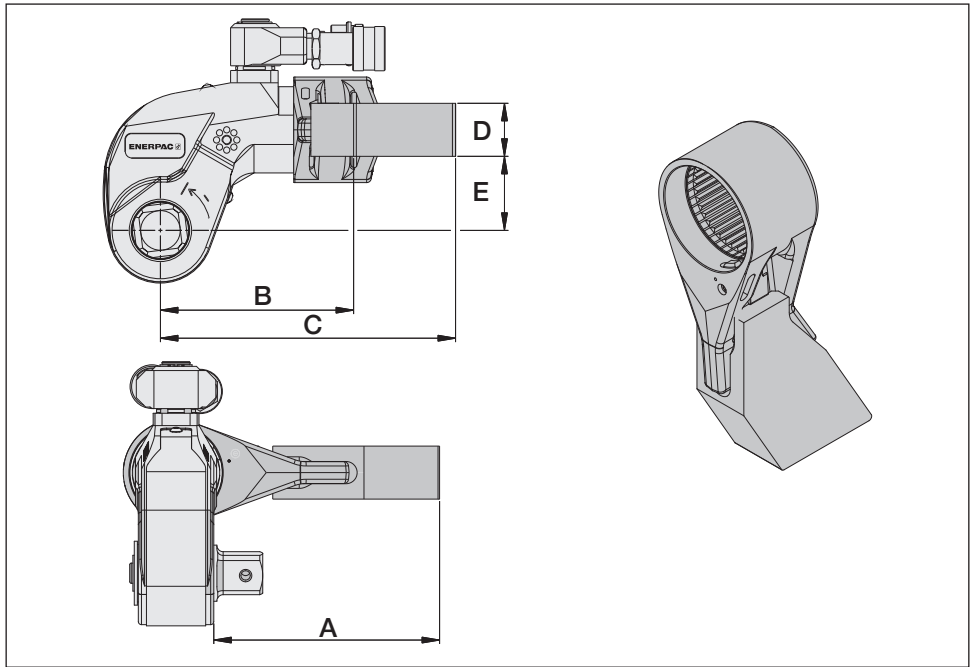

Fig. 29
6.3 Dimensions and Specifications, SRS Series Extended Reaction Arm (Fig. 29)